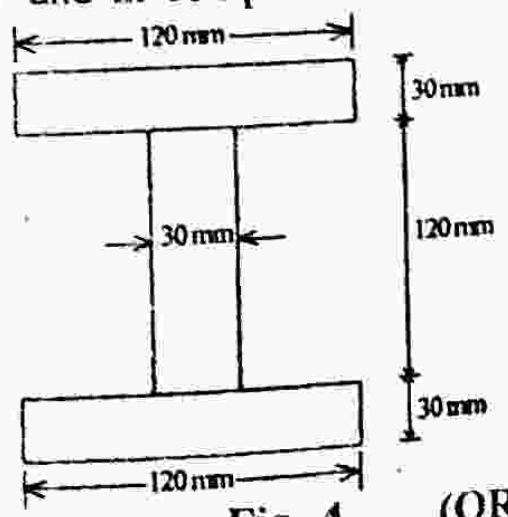

Fig. 4
5. A beam simple supported at ends and having cross section as shown in Fig. 4 is loaded with a uniformly distributed load over whole of its span. If the beam is 8 m long, find the uniformly distributed load, if maximum permissible tensile stress is limited to 70 N/mm^2 and in compression to 100 N/mm^2 . (13)